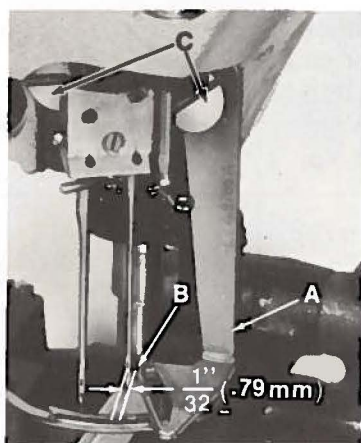

FIGURE 20
Stationary spreader thread guide (A, Fig. 20) should be located approximately 1/32 inch (.79 mm) from right needle at point (B). Adjustment is made by loosening screws (C) and moving the guide as required. Retighten screws securely after adjustment.